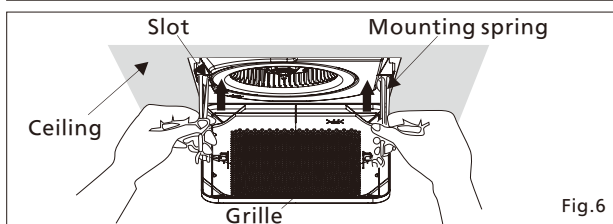

Fig.6
8. Insert the grille mounting springs into slots as shown and mount grille to fan body. (Fig.6)